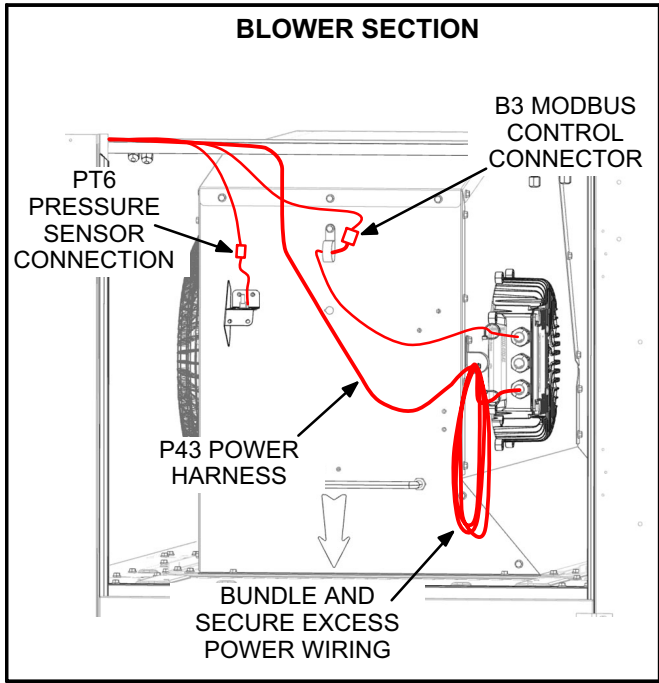

FIGURE 2
- 3- Disconnect B3 Modbus connection and PT6 connection in the blower section. See figure 2.
- 13- Connect P48, B3 Modbus, and PT6 connections as shown in figures 2 and 4.